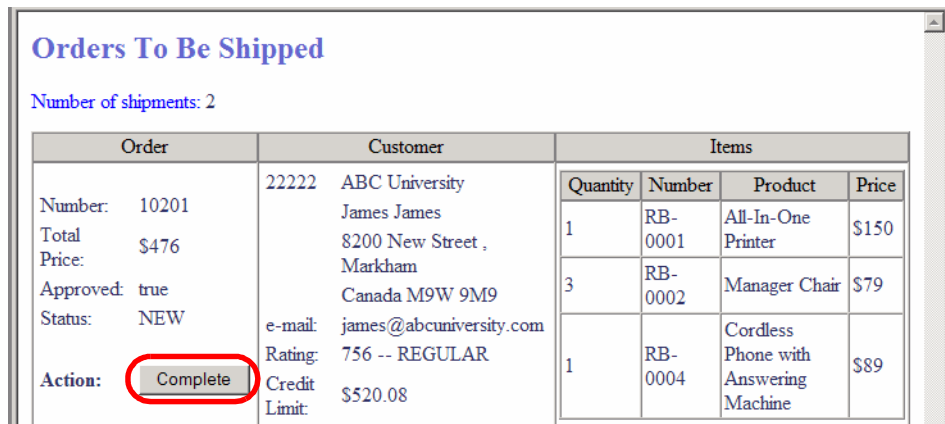

Figure 9-56 Human task application: Orders for shipment
- ▶ Decline the other order and click *Process*. All orders to be reviewed are processed. Click *Home*, then click *Shipments*. There should be a few orders to be shipped (Figure 9-56).